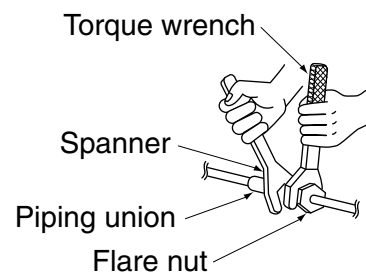

Fig. 13
- Be sure to use both a spanner and a torque wrench together as shown in the drawing, when connecting or disconnecting pipes to/from the unit. (Refer to Fig. 13)